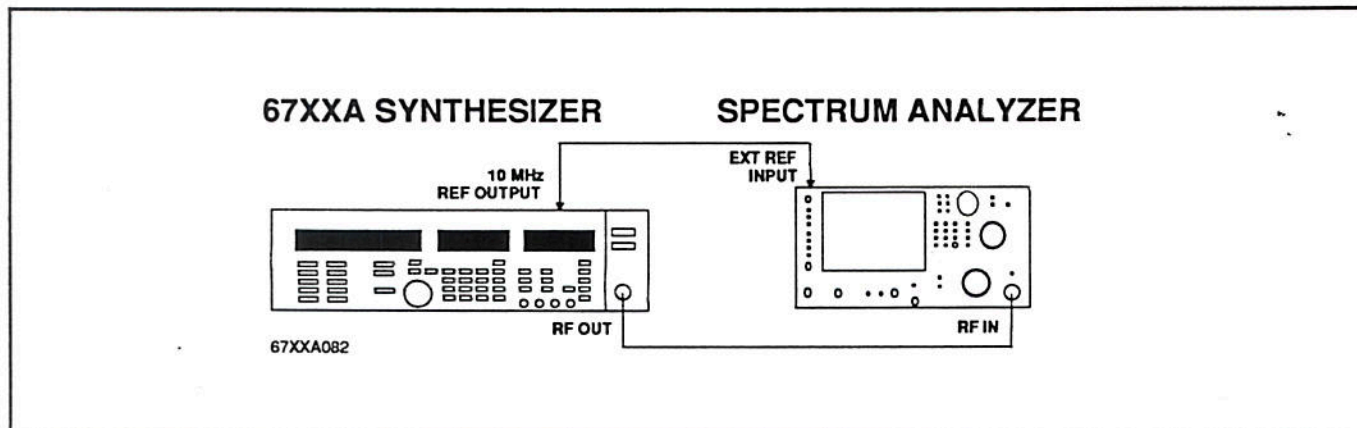

Figure 2-8. Equipment Setup for Step Attenuator Verification
1. Connect the equipment as shown in Figure 2-8.